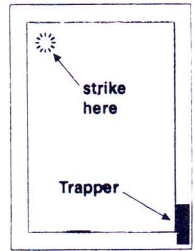

Fig.6
3. Firmly strike the protected area at a point furthest from the detector calibration tool, as in fig.6